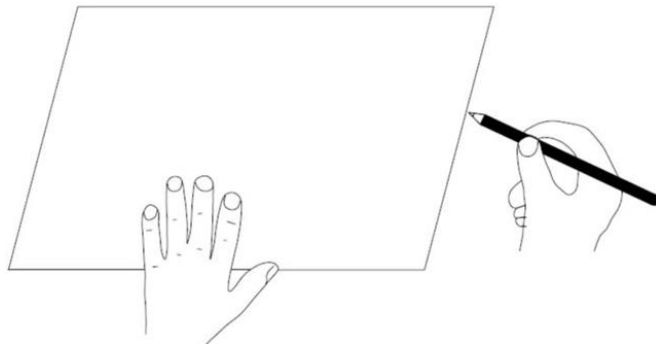

Fig. 4
3. Use the cut-out template card as a template. Place in the required location and mark out the hole cutting size: 325mm x 400mm. Before commencing cutting ensure that the area behind the intended location is clear of all cables, pipes and joists. Once clear, cut out the section along the previously marked lines. (Fig. 4)